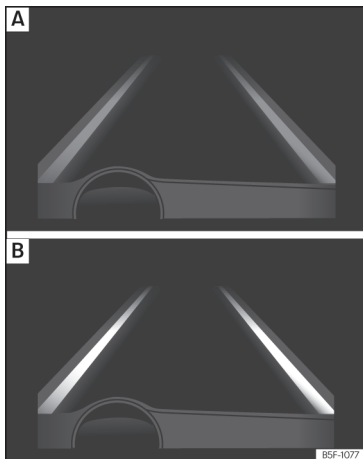

Fig. 282 On the instrument panel display: Indication on the Lane Assist system display [example 1].
- **Fig. 282 [A]:** The system is active, but not available, either because the minimum speed has not been reached or because the lane lines are not recognised.
- **Fig. 282 [B]:** The system is active and available, both lane lines are recognised. The steering angle is not being corrected at this moment.